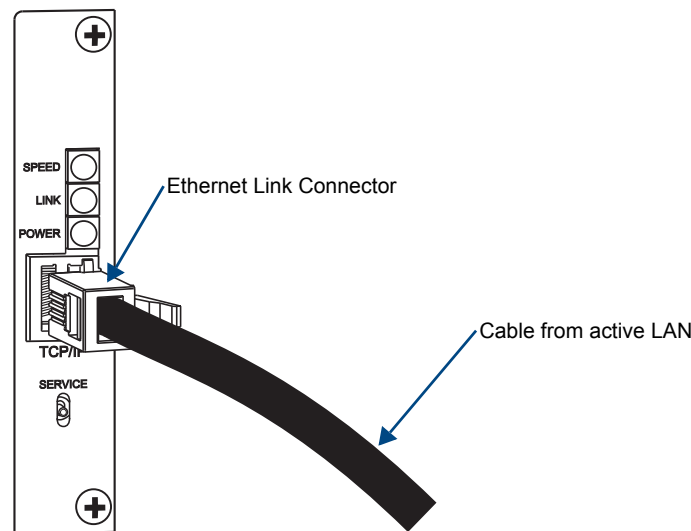

FIG. 30 Fasten the Ethernet link connector
3. Insert the other end of the cable into the TCP/IP (RJ-45) jack on the APWeb board (FIG. 30).